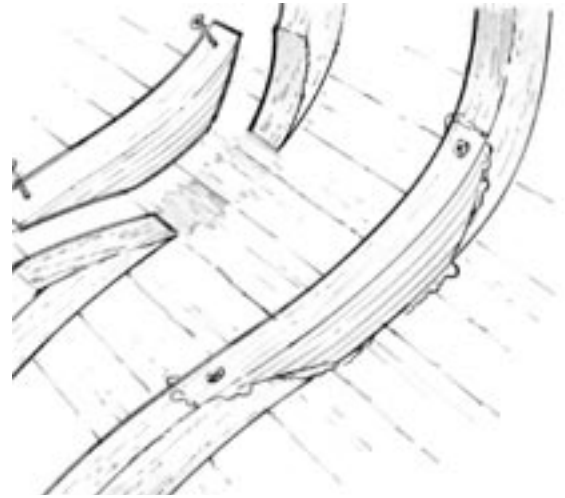

Figure 5-5 Bond in a new laminated or solid section trimmed to fill the void in the existing frame.
4. Install the new frame section (*Figure 5-5*). Wet out all contact surfaces of the new and existing frame ends. Apply a liberal amount of thickened epoxy/406 mix to one side of each contact area.